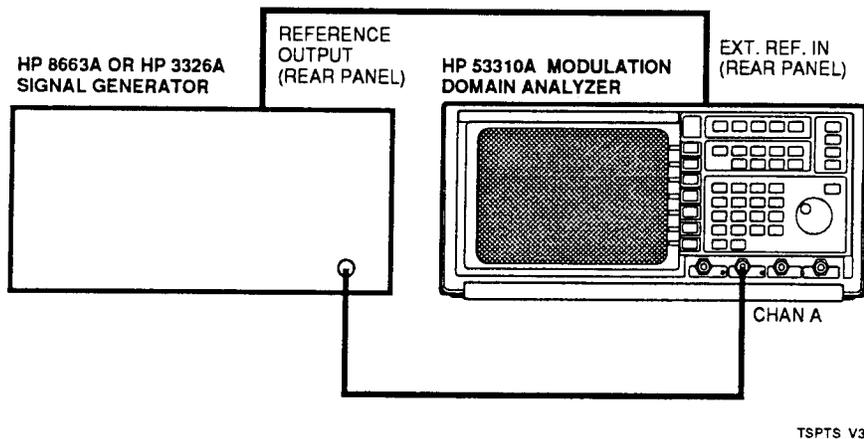

Figure 2-5. HP 53310A Performance Tests Setup
- 3 Connect the HP 53310A to the HP 8663A (source) as shown in Figure 2-5.
Make sure the HP 53310A and the source frequency references are locked. This is accomplished when the source reference is connected to the HP 53310A Ext. Ref. In input as shown in Figure 2-5.